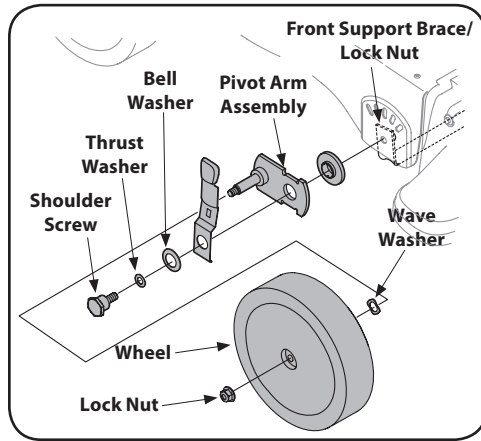

Figure 5-5
4. Remove the flange lock nuts, front wheels, and wave washers that attach to the pivot arm assemblies. See Figure 5-5.